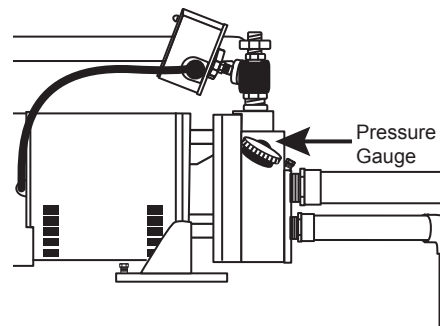

Figure 34 - Check pressure gauge
4. If pump is properly primed, pressure will quickly build and register on the gauge mounted directly on the pump body. If pressure does not build repeat priming operation. All air must be vented from the drive and suction pipes as well as the body before the pump will prime. The pump body may need to be filled several times in order to achieve the prime. (Fig. 34)